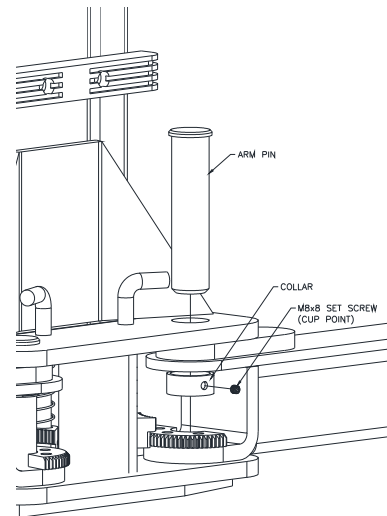

Fig. 10 –Arm Install
30) Lubricate the arm pin or carriage arm pin hole with “anti-seize” and install the arms as shown in Fig. 10. Once the set screw is finger tight against the arm pin, tighten ¼ turn with allen wrench.